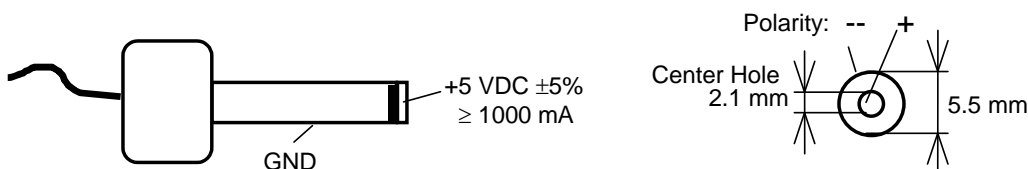

Figure 3: Connecting the Supply Voltage at X5
- Using the included 5VDC power adapter to connect the power socket X5 on the board (*refer to Figure 3 for the correct polarity*). The phyCORE module/Development Board combination requires a 5 VDC@1A $\pm 5\%$ regulated supply.